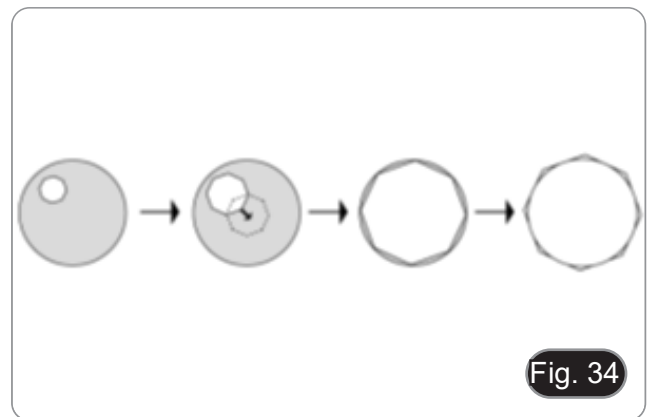

Fig. 34
3. Rotate the field diaphragm ring ② in counterclockwise direction, to fully close the diaphragm.
4. Rotate the condenser height adjustment knob ③ to focus the edges of the diaphragm.
5. Rotate the two centering screws ④ to bring the bright spot in the centre of the field of view.
6. Gradually open the diaphragm. The condenser is centred when the diaphragm image is symmetrical to the field of view. (Fig. 34)